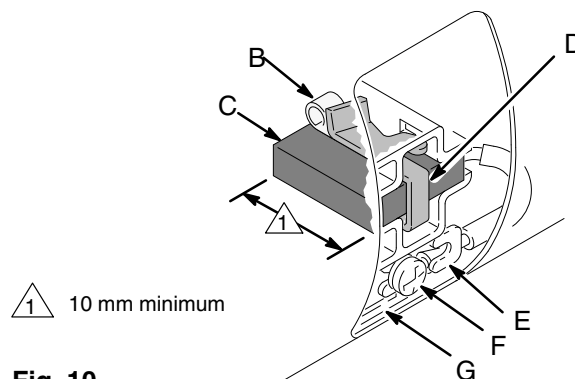

Fig. 10 01227
**NOTE:** Replace the brushes when they have worn to less than 10 mm. See Fig. 10. Always replace both brushes at the same time. A Brush Repair Kit, p/n 222–157, and spring clip, p/n 110–816, are available.
3. *Loosen* the terminal screw (F). Pull the brush lead (E) away, leaving the motor lead (G) in place. Remove the brush (C) and spring (B). See Fig. 10.
5. Install the new brush (C) so its lead is in the long slot (H) of the holder. See Fig. 11. Slide the terminal (E) under the terminal screw washer. Make sure the motor lead (G) is still connected at the screw. Tighten the screw (F). See Fig. 10.